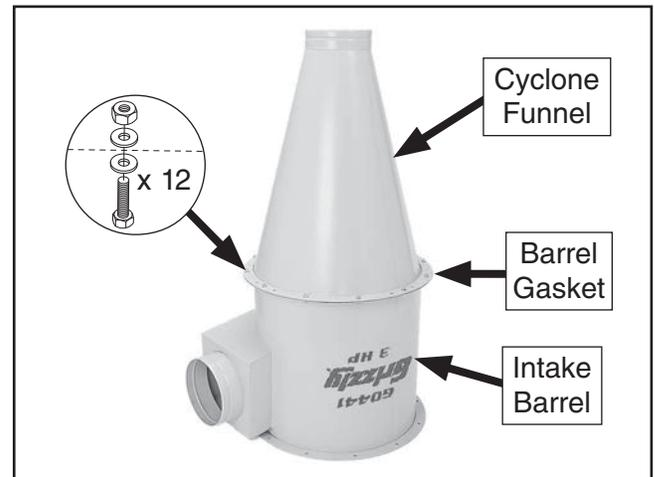

Figure 8. Cyclone funnel attached to intake barrel.
9. Attach cyclone funnel to intake barrel with barrel gasket between them with (12) $\frac{5}{16}$ "-18 x 1" hex bolts, (24) $\frac{5}{16}$ " flat washers, and (12) $\frac{5}{16}$ "-18 hex nuts (see **Figure 8**).